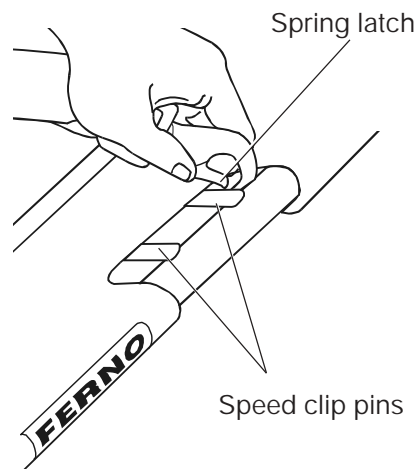

Figure 9 - Attaching Restraint with Speed Clips
2. Press the speed clip against the speed clip pin on the stretcher until the spring latch of the speed clip snaps into place over the pin (Figure 9).